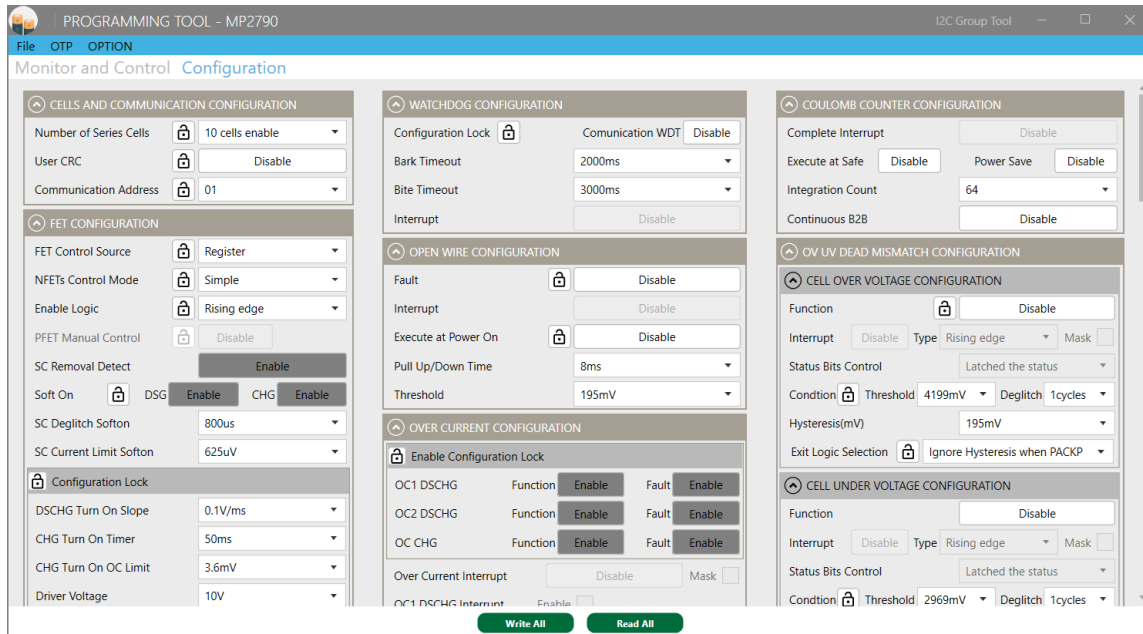

Figure 14: OTP and MTP View
- In OTP and MTP view, all parameters that are not relevant to OTP and MTP cannot be modified. Any other parameters can be adjusted as necessary (see Figure 14).